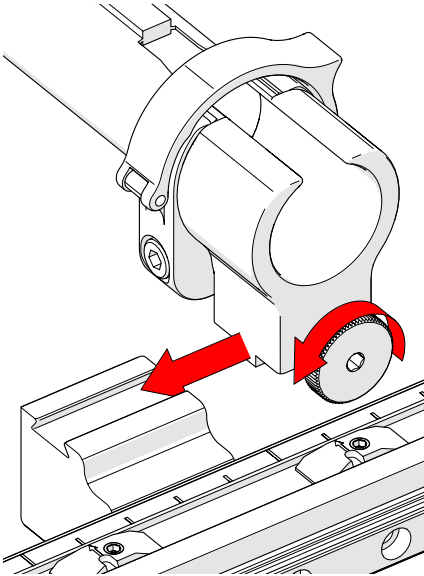

Fig. 63 - Loosen and slide on
1. Loosen the knob on the cable management dovetail mount. Slide the mount onto the dovetail link (Fig. 63).